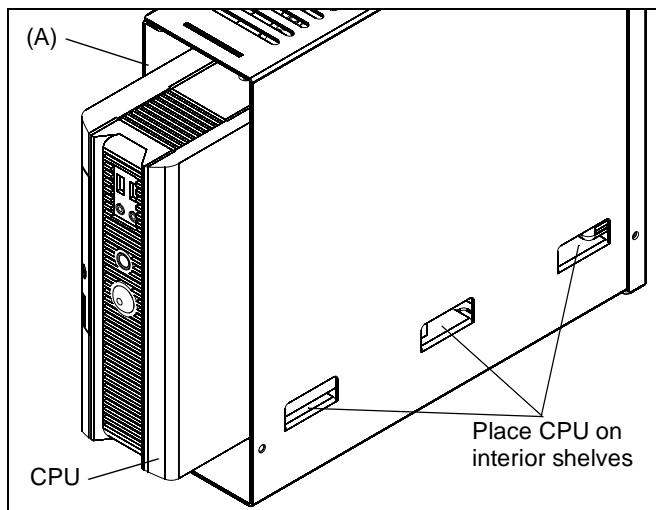

Figure 7
1. Install the CPU into the CMA-170 and place it on the six shelves located in the CMA-170. (See Figure 7)